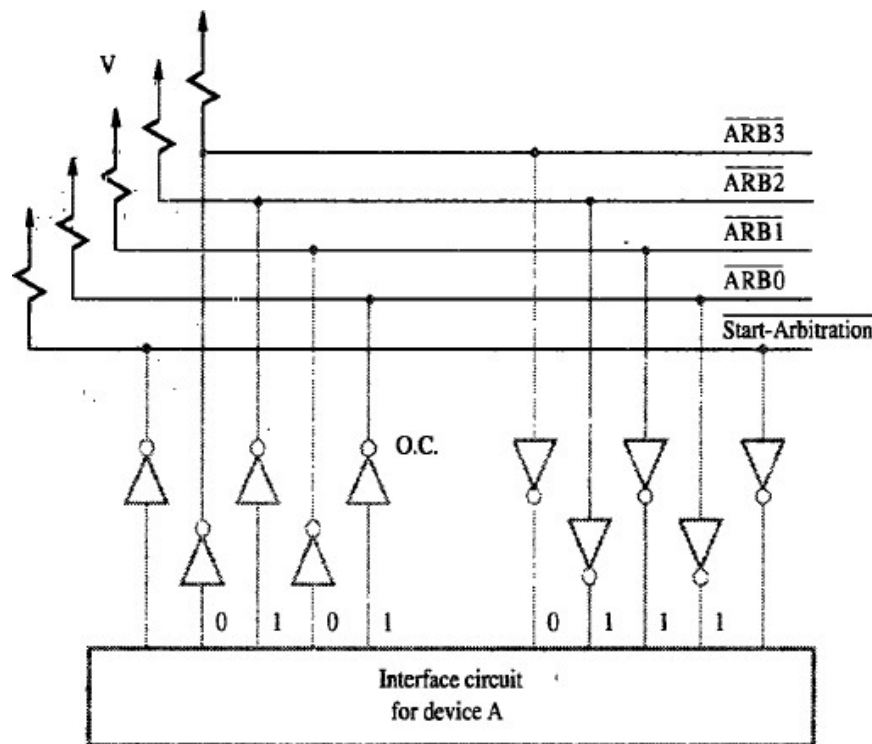

Figure 4.22 A distributed arbitration scheme.
- All device participate in the selection of next bus-master (Figure4.22).